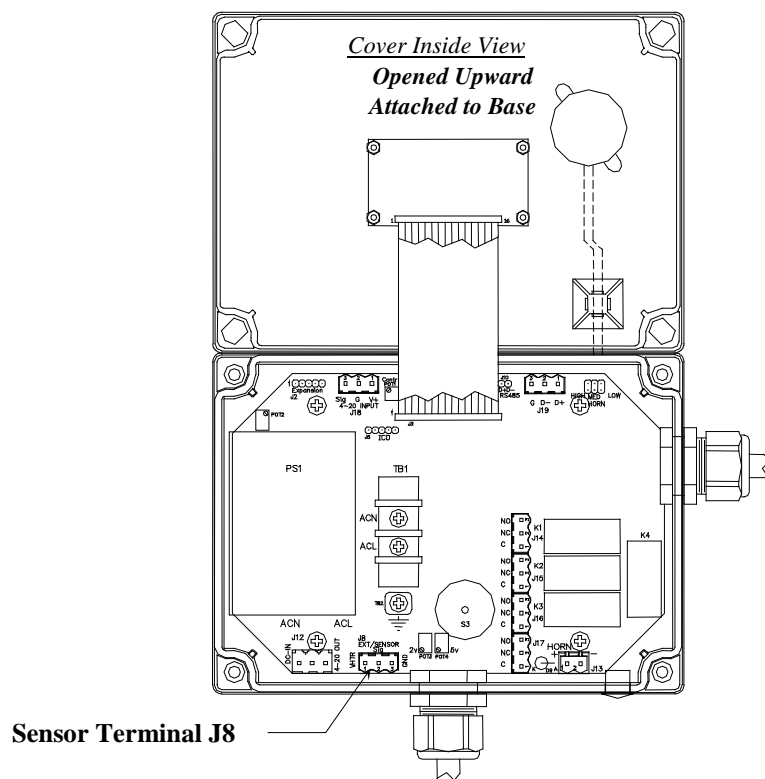

Figure 8: CO-GUARD-MOS Sensor Replacement
- Remove, the 4 retaining screws from **CO-GUARD-MOS** lid, see Figure 8
- Remove, the sensor from the terminal connector on the PCB, see **Figure 8**.
- Attach the wiring per Sensor Wiring Terminal J8 chart within **Figure 8**.